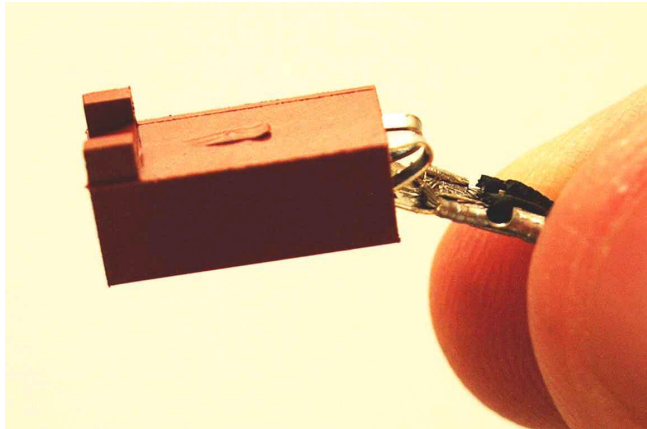
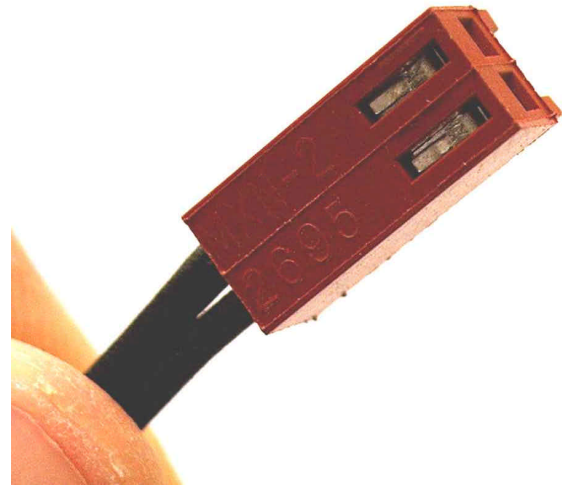

Figure 6: Insert pins into housing
Figure 7: Completed connector
9. Insert the pins into the connector housing following the orientation shown in **Figure 6**. Be sure to insert the pins fully. You may have to push them into place with a small screwdriver. The finished connector will look similar to **Figure 7**. Note the “flanges” poking through the two rectangular holes in the connector.